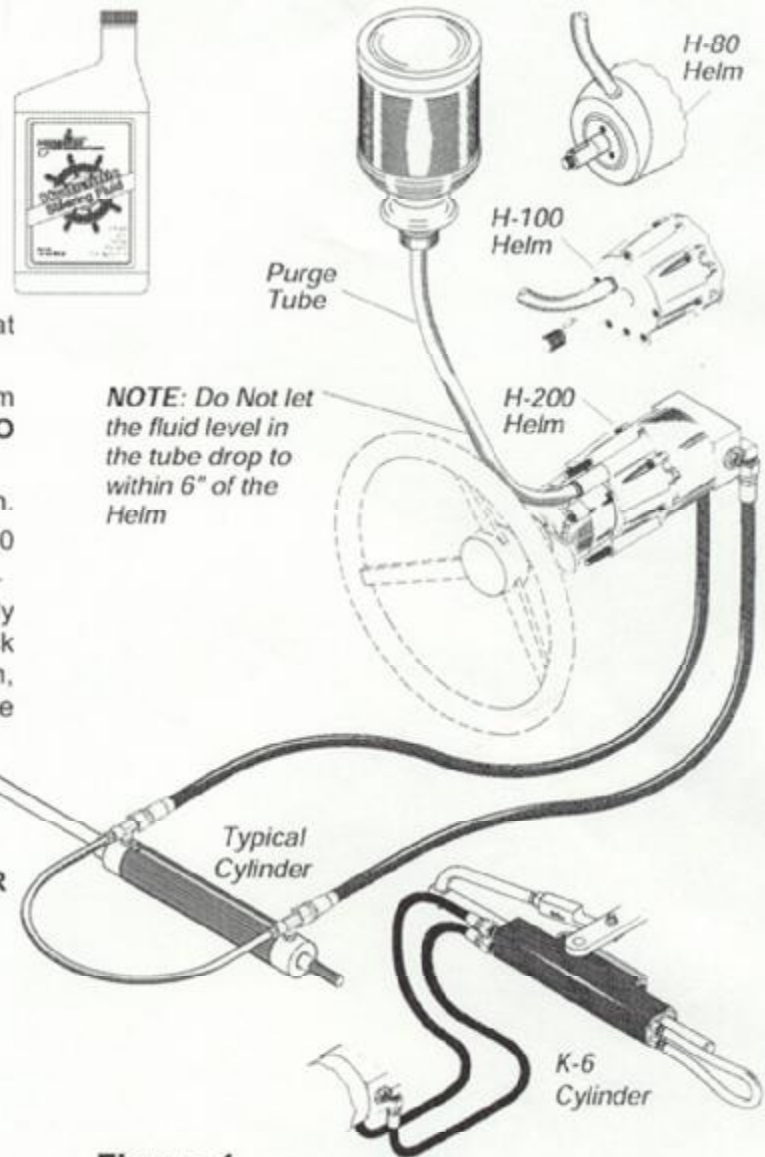

Figure 1
1. Set up Helm as shown in Figure 1. Connect tube at cylinder. **DO NOT** invert bottle at this time.